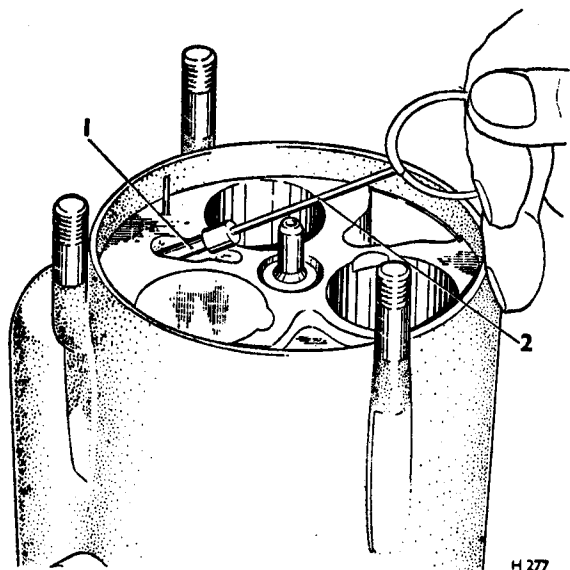

FIG. C20 REMOVING THE OIL PICK-UP TUBE
10. Withdraw the oil pick-up tube using a stiff piece of hooked wire (*see Fig. C20*); discard the 'O' ring.